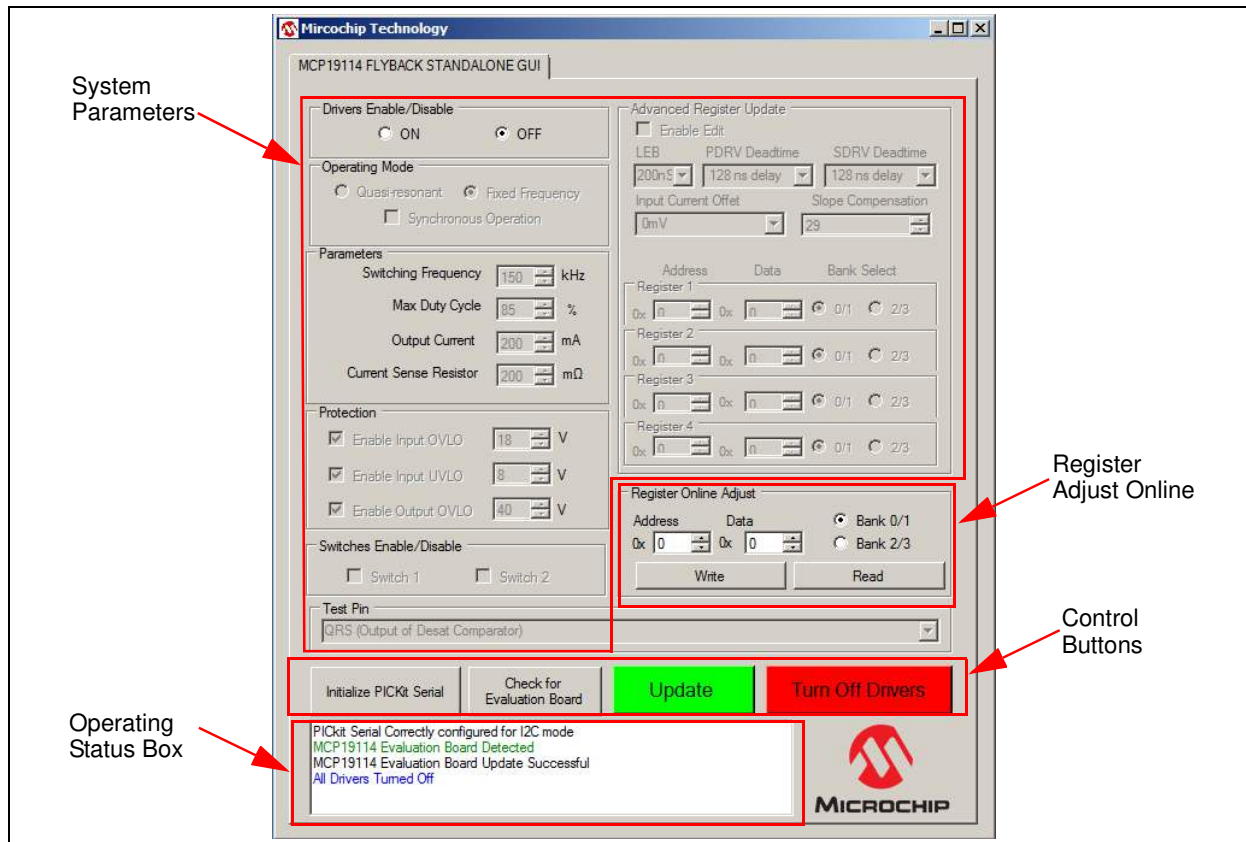

FIGURE 3-2: MCP19114 - Flyback Stand-Alone GUI - Initial Screen.
3. To start the GUI, select *Start > All Programs > Microchip Technology Inc. > MCP19114 Flyback Standalone GUI*. The interface detects the MCP19114 device automatically and is ready for use (see Figure 3-2).
As depicted in Figure 3-2, the MCP19114 - Flyback Stand-Alone GUI is divided into four parts: